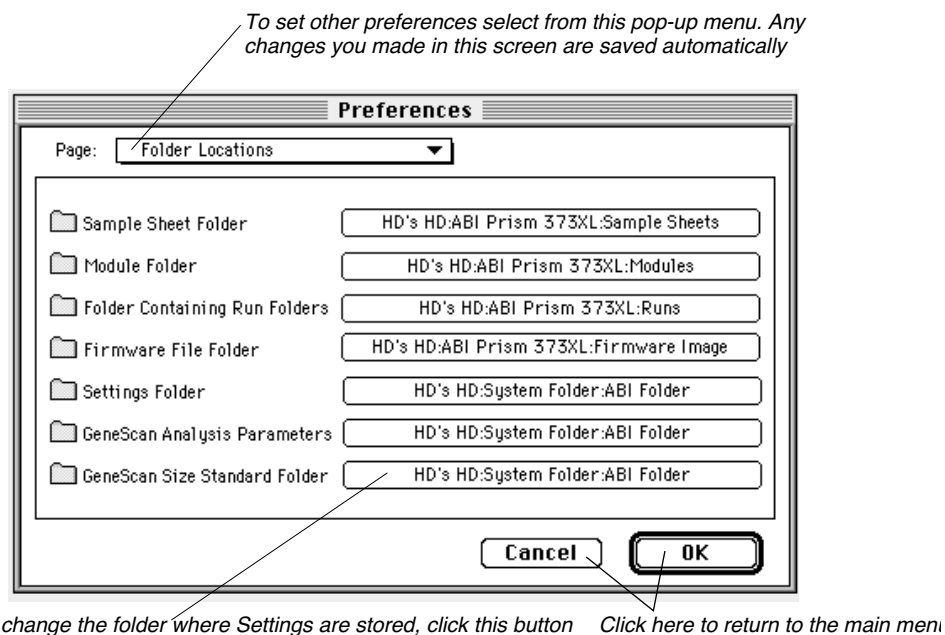

Figure 5-3. Preferences Folder Locations window
You can choose several types of preferences to set (see Figure 5-3):
The Folder Locations page of the preferences dialog box shows the current folders that store Sample Sheets, modules, runs, the firmware image, and settings (see Figure 5-3).
4. When you have changed all the desired folders, click OK in the Folder Locations Preferences dialog box (Figure 5-3 on page 5-16) or choose another preference from the Page pop-up menu.